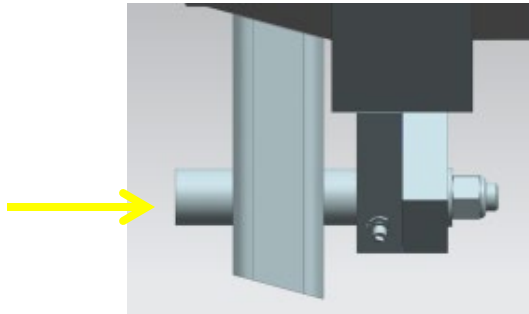

Figure 18: Slide Clamp Ring Pivot Pin through Hole
- F. Slide clamp ring pivot pin through the back side of the clamp pivot plate and the center hole of the two lower clamp ring arms, see Figure 18.